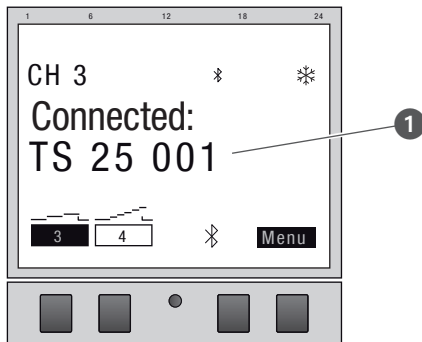

Fig. 24: Channel extension is connected to the DIN-rail timer
9. The channel extension displays the name of the connected device if there is an active connection (Fig. 24/①).